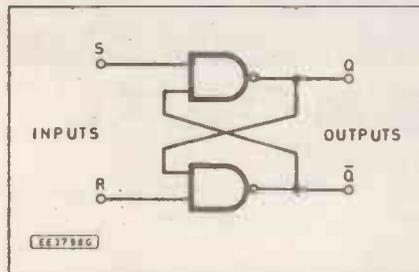

Fig. 1. A bistable multivibrator made from two NAND gates.
The circuit is built around a bistable multivibrator made up from two NAND gates - see Fig. 1. It has two inputs, Set (S) and Reset (R), and two outputs Q and \bar{Q} of which \bar{Q} is normally the inverse of Q.